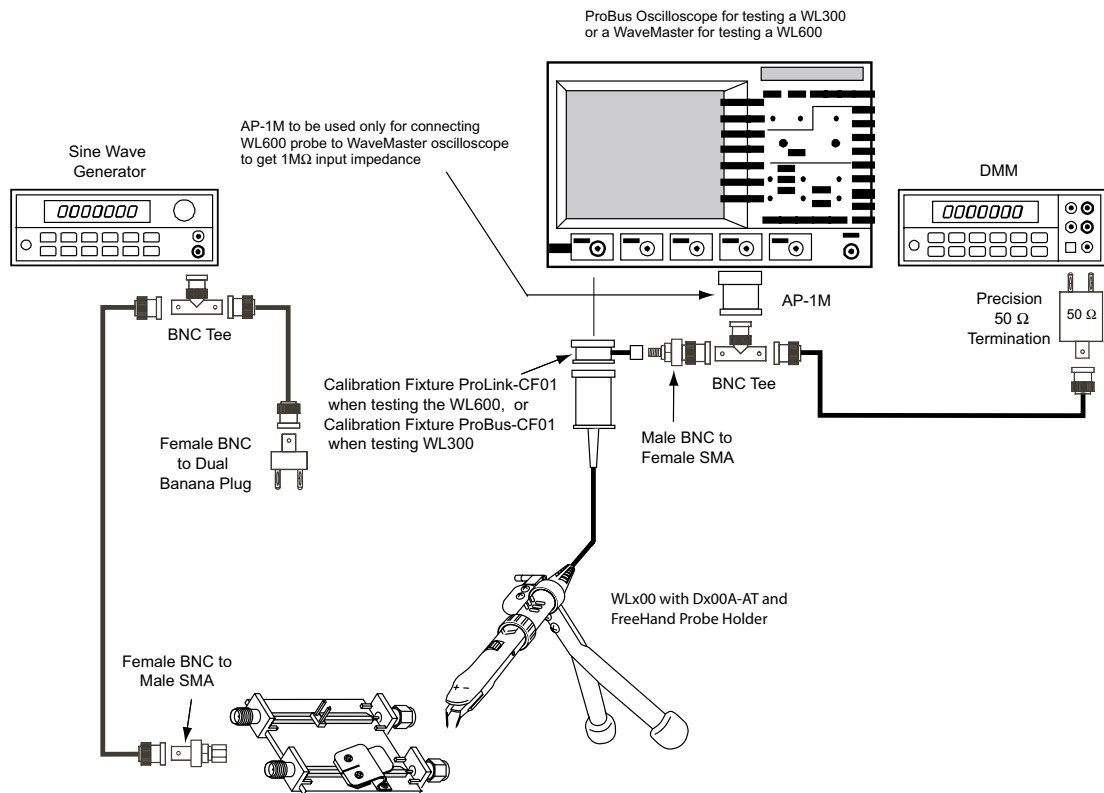

Figure 8-7. WLx00 with a Dx00A-AT measuring Output Voltage.
- s. Unplug the BNC to Banana Plug Adapter from the DMM and connect the Precision 50 Ω Terminator to the DMM input. Figure 8-7.